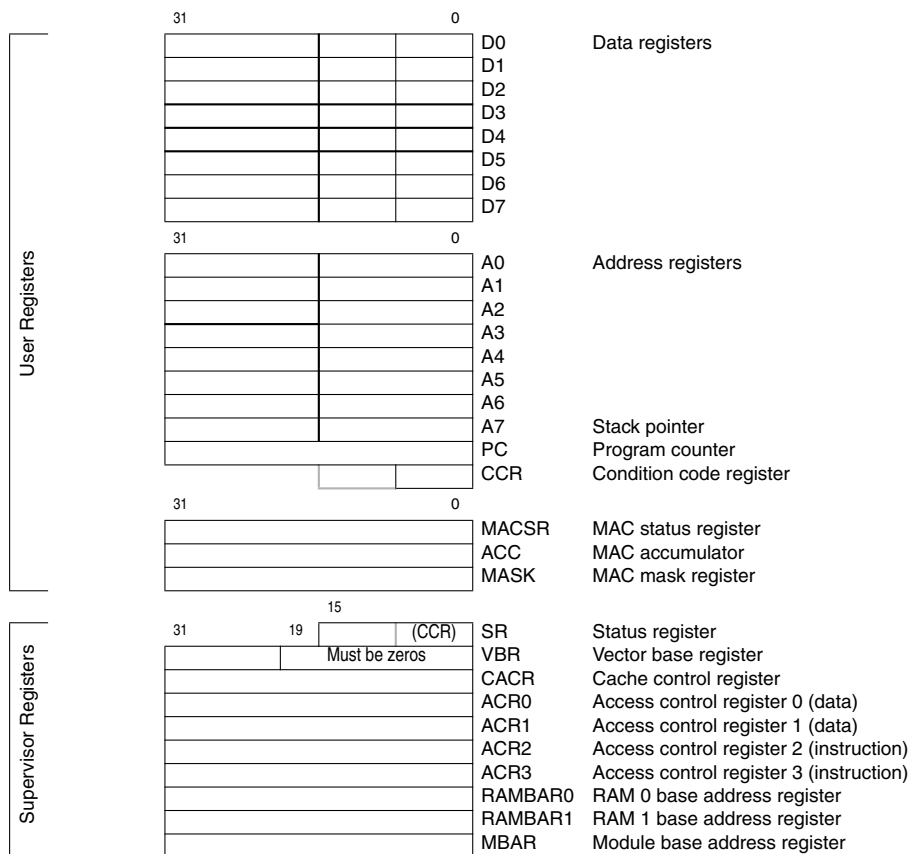

Figure 1-4. ColdFire MCF5407 Programming Model
Figure 1-4 shows the MCF5407 programming model.
The user programming model is shown in Figure 1-4 and summarized in Table 1-1.
| Status register (SR)                          | The upper byte of the SR provides interrupt information in addition to a variety of mode indicators signaling the operating state of the ColdFire processor. The lower byte of the SR is the CCR, as shown in Figure 1-4.                                                                                                                                                                                                                                |